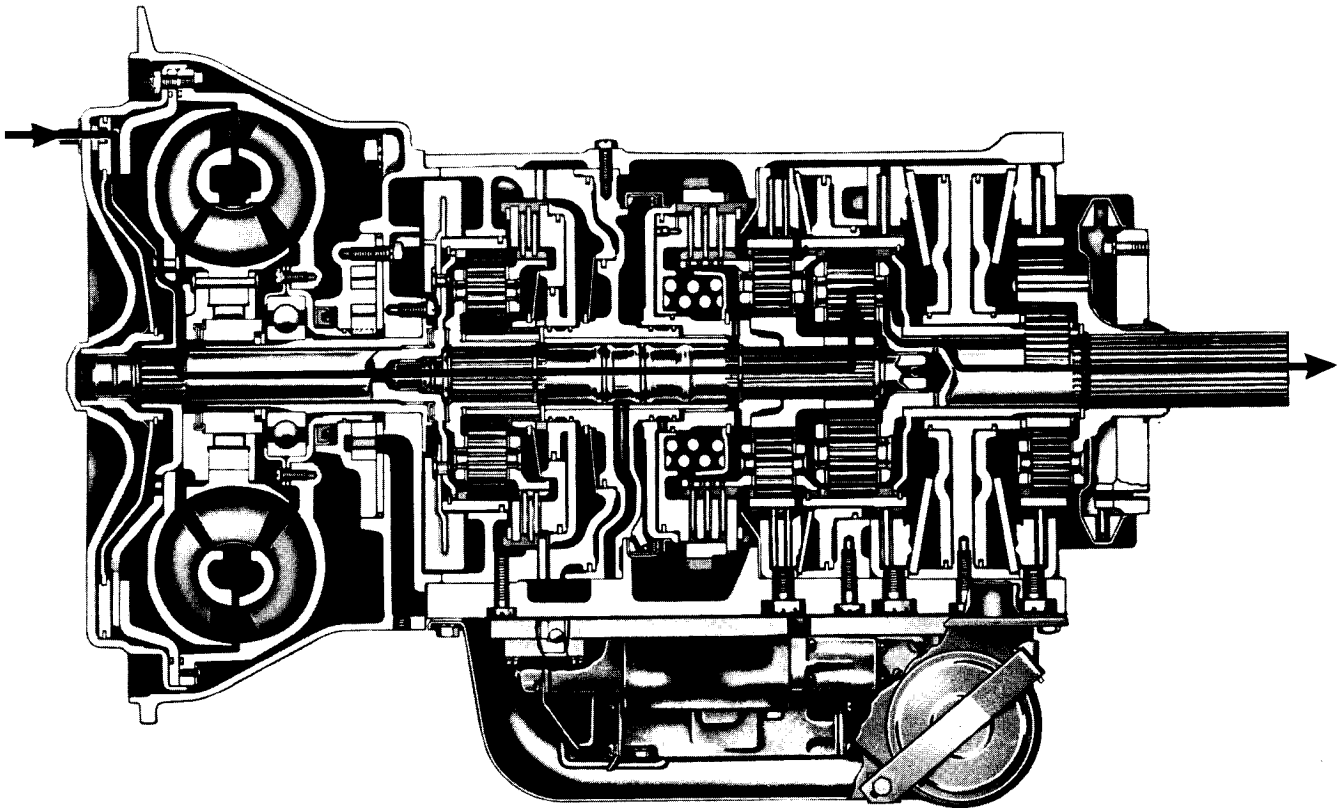

Fig. III-15 Second-gear power flow, lockup
b. Second Gear (fig. III-15). In second gear, the splitter is in high ratio (1:1) while the low-range planetary system functions as